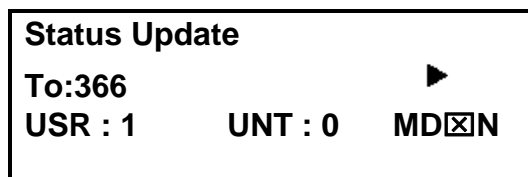

Figure 18
**To send a Status Update**, Press F then Press A or B until the selection is displayed and *enter the target radio ID*. Then Press D and *enter the User (USR), message number*, Press D again and *enter the Unit number*, then Press #. If the target radio has received the Call Alert the display should show "ACK" (acknowledgement). Figure 18 shows Status Update ready to be sent to 366.